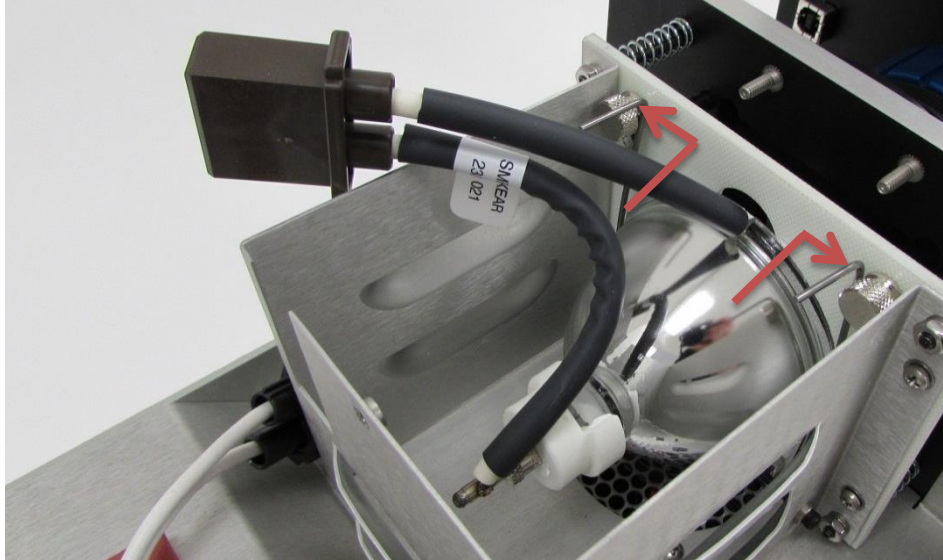

Figure 14: Secure Lamp
7. Secure the lamp in place by returning the lamp holder wires to their original location per Figure 14.